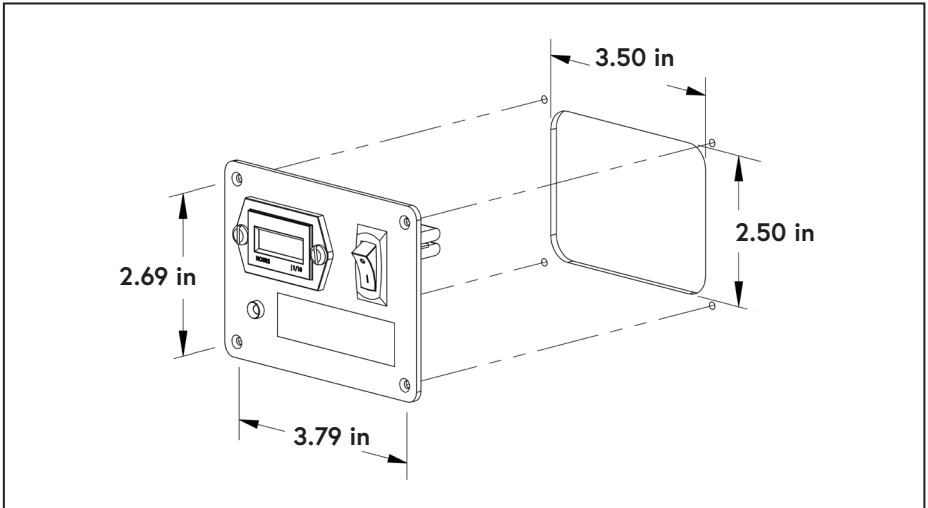

Figure 60 — Interface Panel mounting dimensions
- Install the Interface Panel in a suitable location (Figure 60).